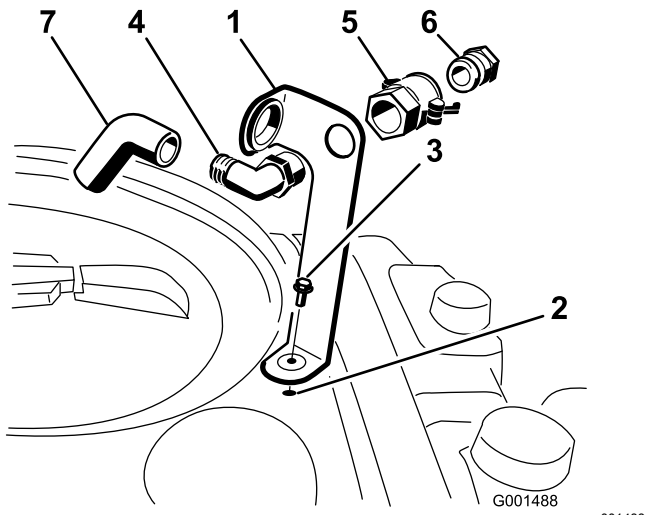

Figure 3
- Place the fill receptacle bracket over the threaded hole in the tank and secure it with a flange-head bolt (5/16 x 3/4 inch) (Figure 3).
- Place the threaded end of the 90° elbow fitting through the bracket and thread the quick coupler onto it, securing it to the bracket (Figure 3).
- Install the hose adapter into the quick coupler (Figure 3).
- Lock the adapter into place by swinging the levers toward the adapter and then secure them with the hairpin cotters (Figure 3).
- Install the anti-siphon hose through the large opening on the bracket and onto the barbed end of the 90° elbow fitting (Figure 3).